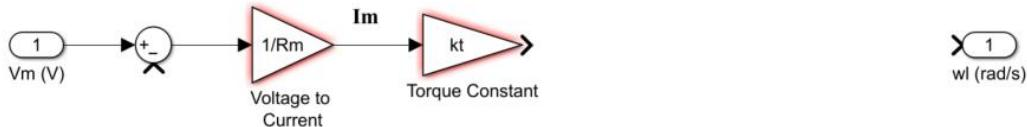

Figure 2: Incomplete Qube-Servo 3 Model.
3. Implement the partial solution shown in Figure 2. While modeling you'll need a few `Gain` blocks, a `Subtract` block and an `Integrator` block (to go from acceleration to speed). The subsequent steps will highlight important components in your model.
- a. It may help to write a short MATLAB script that sets the various system parameters in the workspace so that they can be used by the Simulink model. For example, Figure 2 uses R_m for motor resistance and k_t for the current-torque constant as shown below: